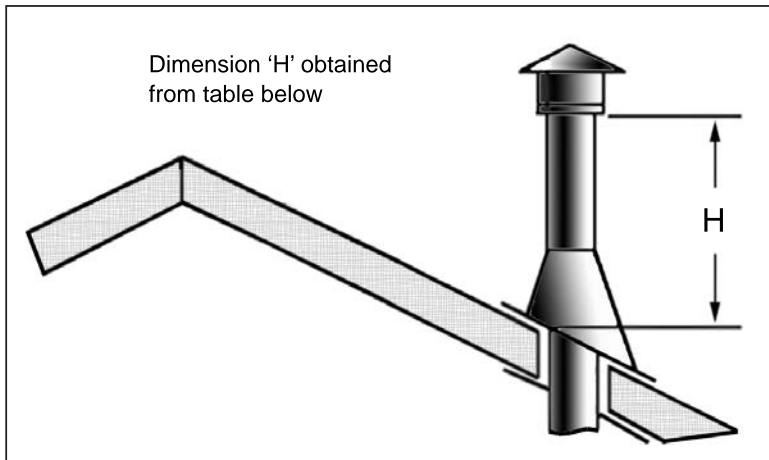

Figure 72: Height of Vertical Termination; Reference Table 9
- Step 4.** Measure roof pitch. Select the proper flashing and storm collar and determine the height above the roof (see Figure 72). A non-corrosive pipe material must be used for all exterior pipe lengths. Seal nail heads with silicone.
Table 9: Minimum 'H' for Figure 72.